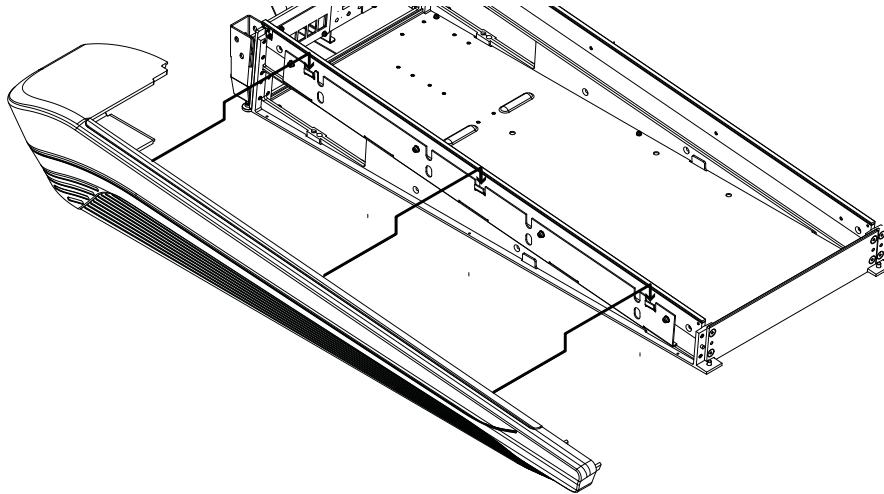

Figure 28. Attaching the left Side Cover
- 2 Make sure power and Ethernet cables are not in the way, then set the panel into the side bracket so that its tabs hang on the slots on the mounting plate as shown in Figure 28.